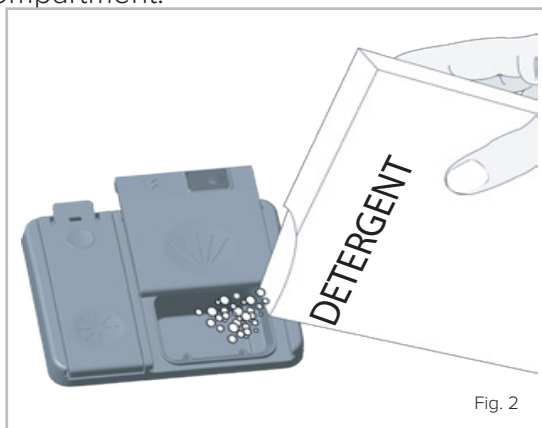

Fig. 2
2. Add the required amount of detergent. The main detergent compartment (Fig. 2) has lines to allow for specific amounts of detergent. These are marked at either 15cm^3 or 25cm^3 , to be used depending on how dirty the dishes are.